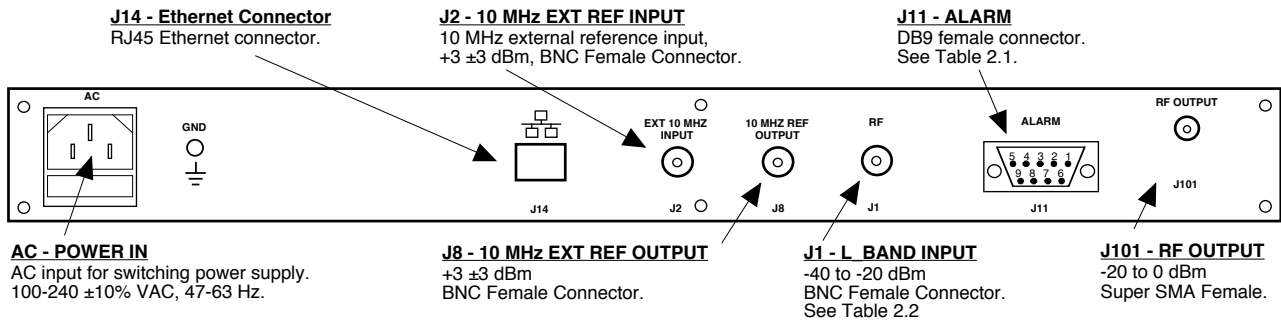

FIGURE 2.1 3115-202#-1700 Rear Panel I/O's
Figure 2.1 shows the input and output connectors on the rear panel.
1. Connect a -40 dBm to -20 dBm signal to RF IN, J1 (Figure 2.1).